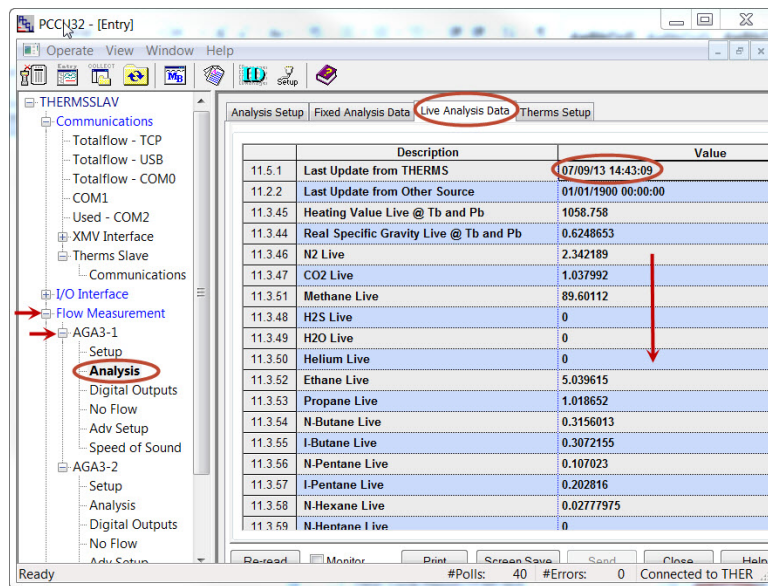

Figure 31 Verify Therms Master tube 1 is receiving analysis data
- 9) Verify the application is receiving data by going to the *Live Analysis Data* tab (see Figure 31). Click Re-read or check the Monitor box to verify that updates from Therms are received and the analysis values are displayed. Update frequency depends on the analysis cycle, so verifying if the data is received may take some time.